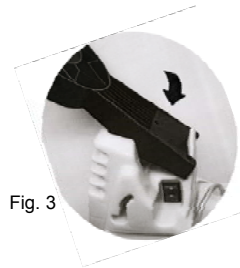

Fig. 3
1. Place the handle on the unit as shown in Fig. 3.